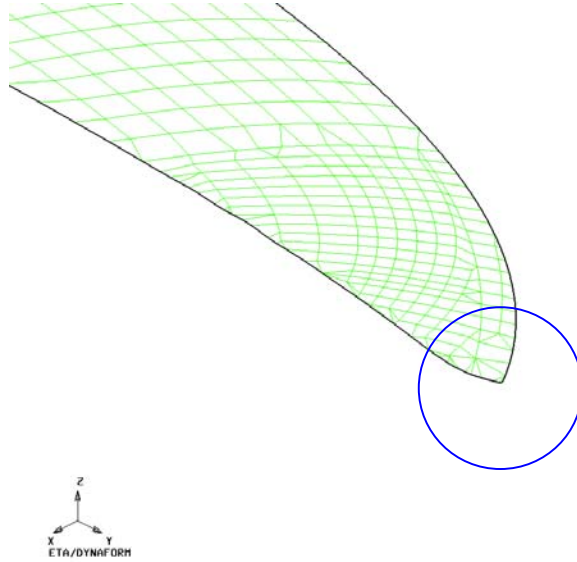

Figure 6.1.38 Sharp Corner
1. After entering the desired corner radius, click the **CORNER SMOOTH** button, and the program will highlight the boundary line of the part as shown in Figure 6.1.38.